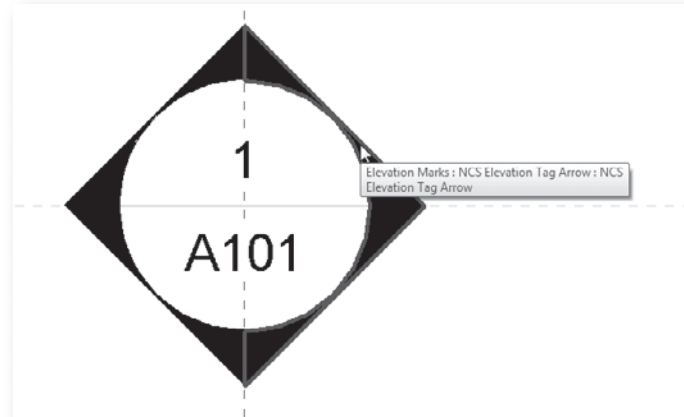

FIGURE 10.34 The completed NCS elevation tag
- Copy and rotate three more copies keeping each centered properly on the circle but ending up with one pointing in each direction (see Figure 10.34).